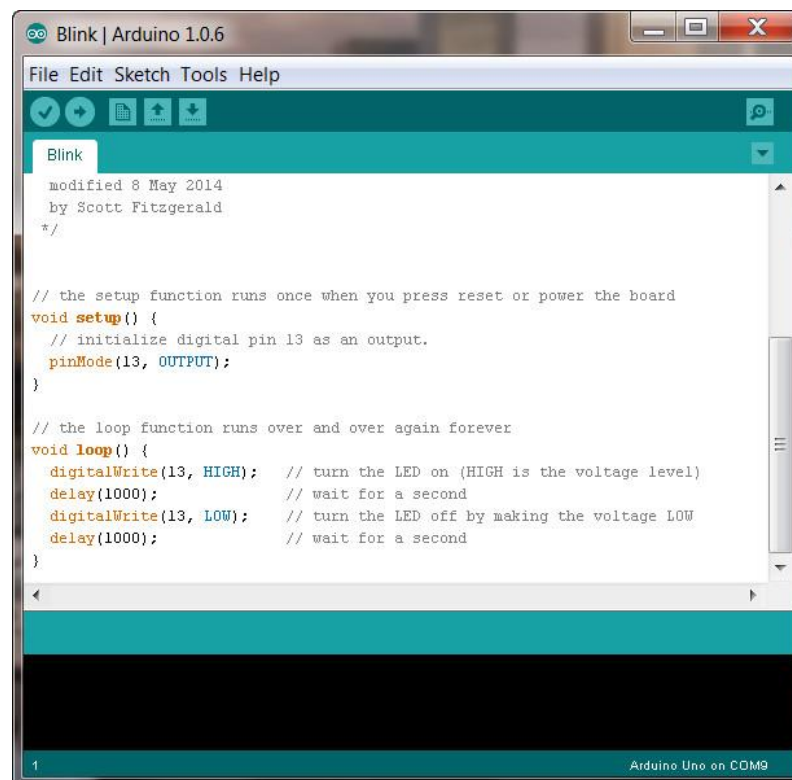

Figure 11 – Blink code
*Blink* is now loaded in the IDE code editor. You can see in Figure 11 a basic Arduino program has two functions: `setup()` and `loop()`. The `setup()` function is used to initialize program variables and prepare your program to run. The `loop()` program is where your code will run. Whatever is placed in this function will run in a loop over and over until the Arduino is powered off.